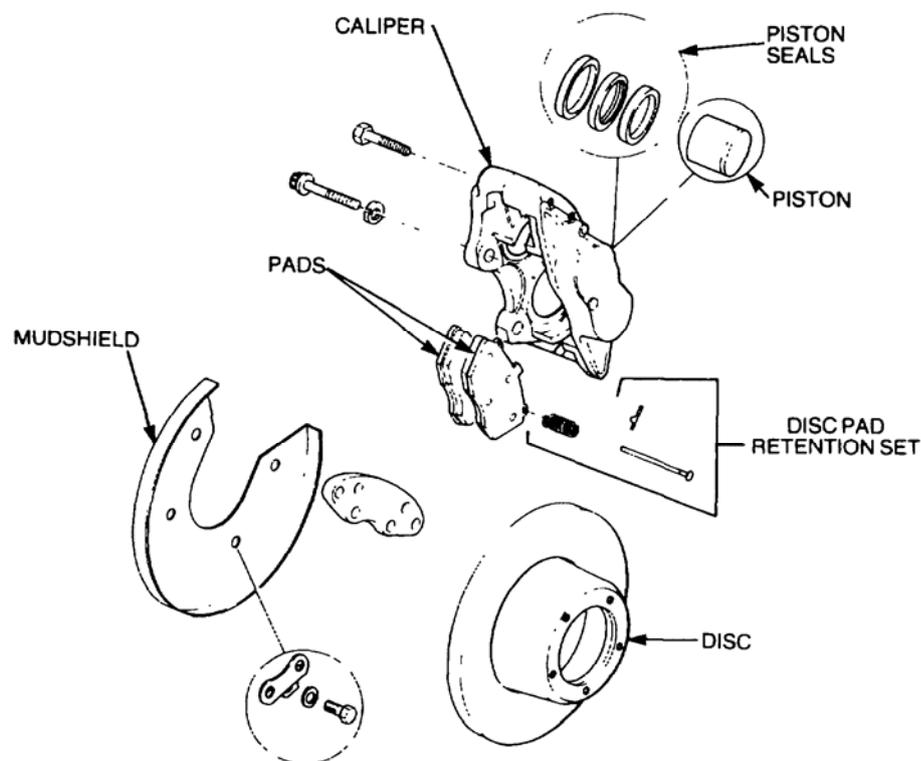

Figure 5 Brake Caliper Exploded View
- a. Thoroughly clean the caliper (refer Figure 5), bores, pistons and in particular the seal grooves and allow to dry.